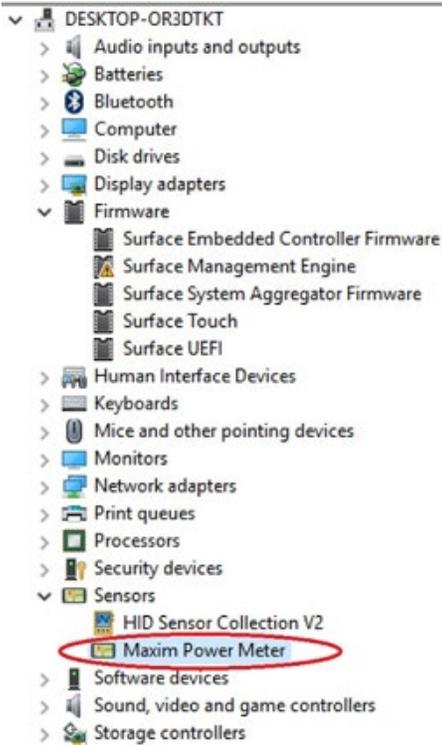

Figure 8. Maxim power meter.
f. You should see the Maxim Power Meter driver installed under Sensors, as shown in **Figure 8**